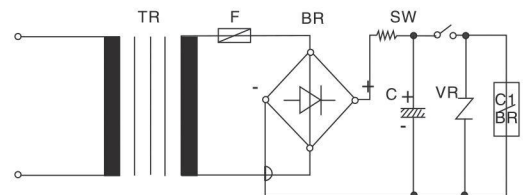

FIG. 4
B. Capacitor over-excitation loop -- the time taken to establish the initial current using the discharge energy of the capacitor. (figure 4)